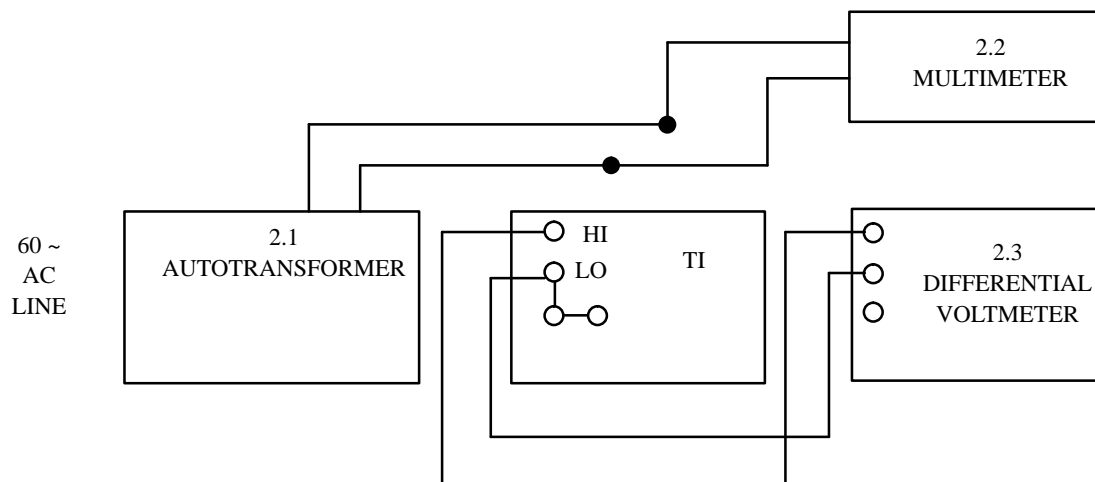

Figure 1. Line Regulation Test Configuration
3.3 Set the autotransformer for 115V av output and connect equipment as shown in Figure 1.